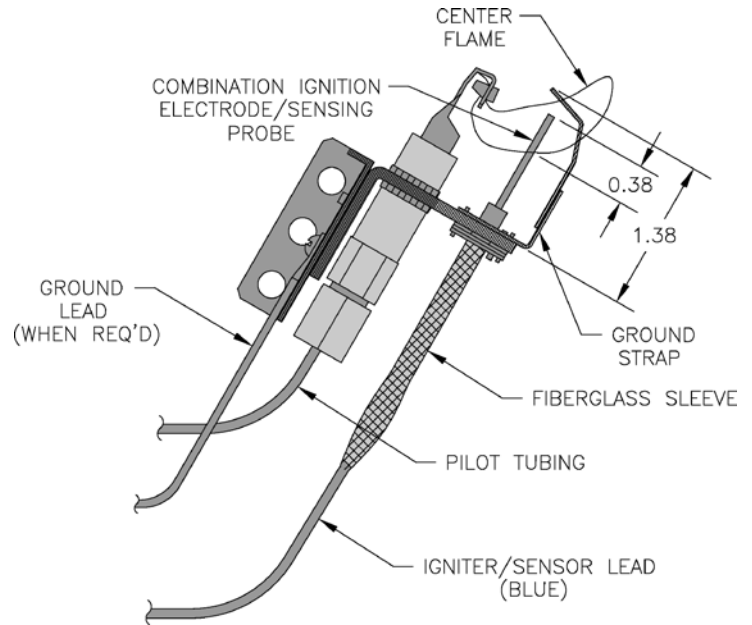

Figure 15: Pilot Burner Flame, Intermittent Ignition
- H. Check pilot burner flame.** See Figure 15. Pilot produces three (3) flames. Center flame should be steady, medium hard blue enveloping $\frac{3}{8}$ to $\frac{1}{2}$ inch of sensing probe.